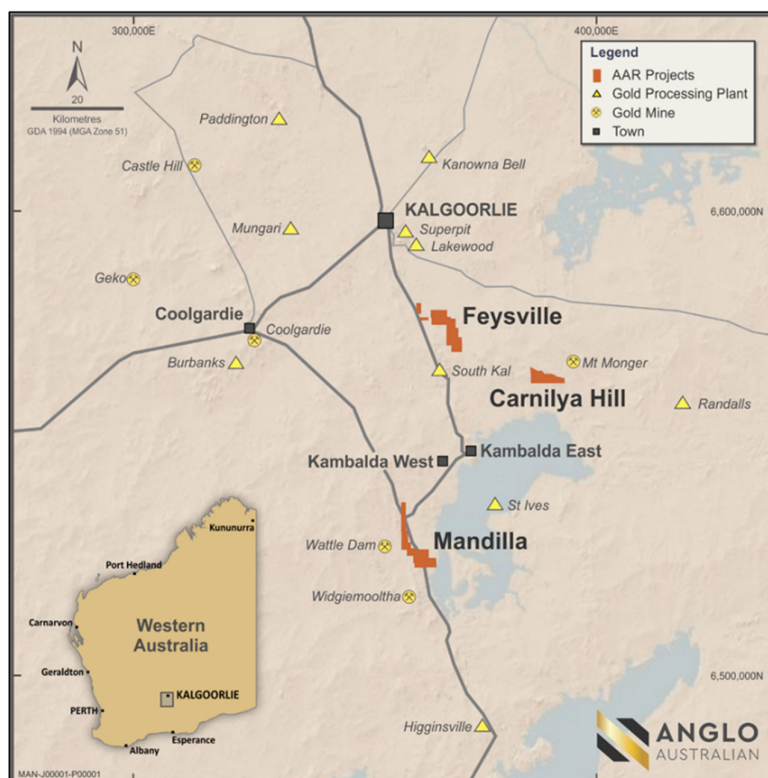

Figure 1 – Mandilla Gold Project location map
Anglo Australian Resources NL (ASX: AAR) (**AAR** or the **Company**) is pleased to report recently received assay results from the new program of Reverse Circulation (RC) drilling currently underway at its 100%-owned Mandilla Gold Project (**Mandilla**), located 70km south of Kalgoorlie in Western Australia (Figure 1).